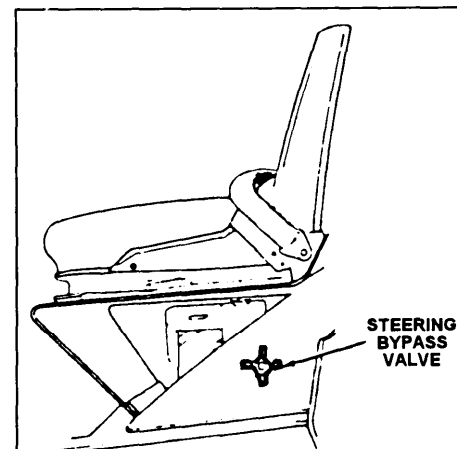

Figure 8-6.—Steering bypass valve.
4. Open the steering **bypass valve** (fig. 8-6) by turning it counterclockwise fully.